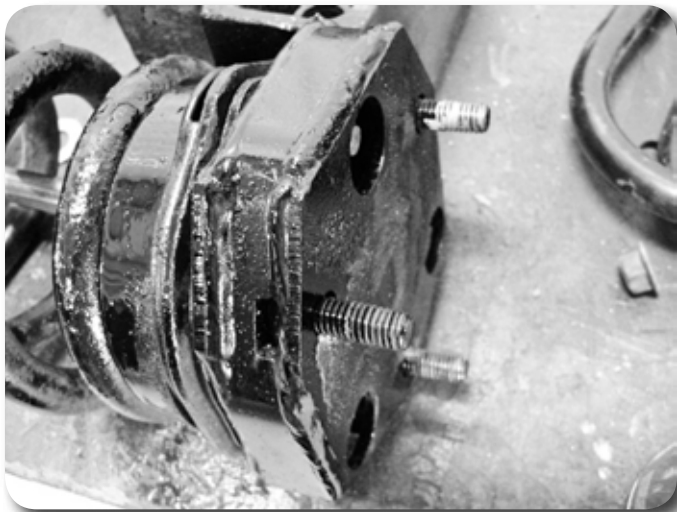

Figure 3
11. Install the new top spacer with factory nuts onto the strut assembly, the strut assembly can only be installed one way. It may be necessary to use a chrome socket for clearance in the access holes. Tighten to 40 ft-lbs. Fig 3